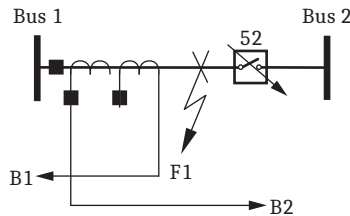

Figure 13 A Single CT With Two CT Cores Configured in Overlap
- A single CT with two cores configured in overlap (Figure 13)
Configure any one of these schemes without using external auxiliary relays. Figure 12 and Figure 13 also show the tie breaker closing onto an existing fault, F1. The SEL-487B includes tie-breaker logic to prevent the loss of both zones for this fault.